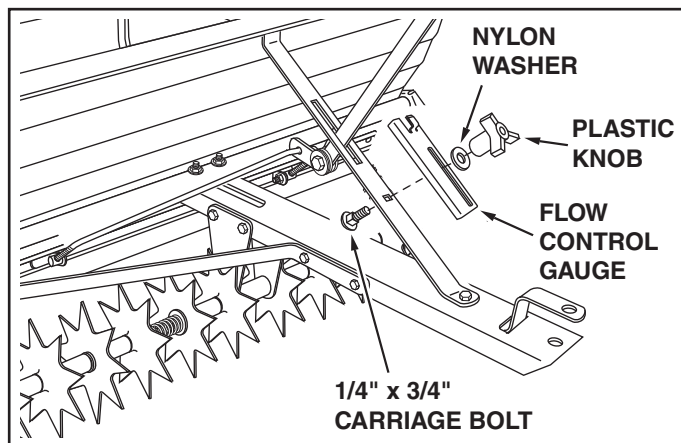

FIGURE 25
39. Assemble the flow control gauge to the hopper brace using the 1/4" x 3/4" carriage bolt, a nylon washer and the plastic knob. See figure 25.